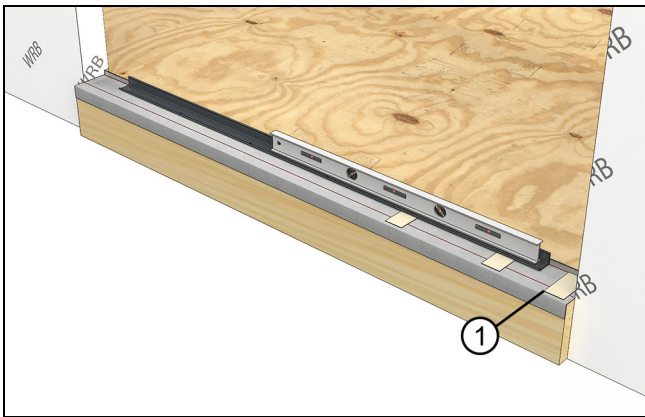

Figure 7
3. Level the sill support and shim if necessary. Use the thin plastic shims provided. Place the shims beneath the sill support installation holes. Its also important that you put shims on the ends to support the frame corner keys. See Figure 7 and Figure 8.